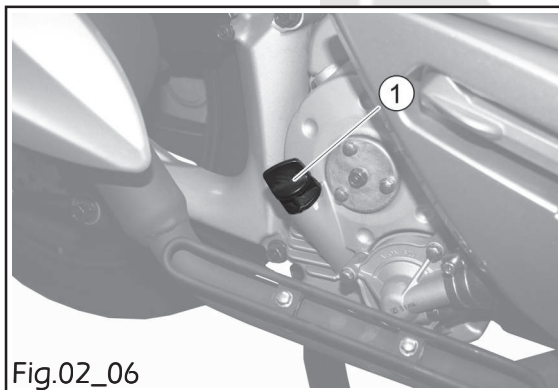

Fig.02_06
- Refit and tighten the filler plug/dipstick «1» (fig. 02_06).